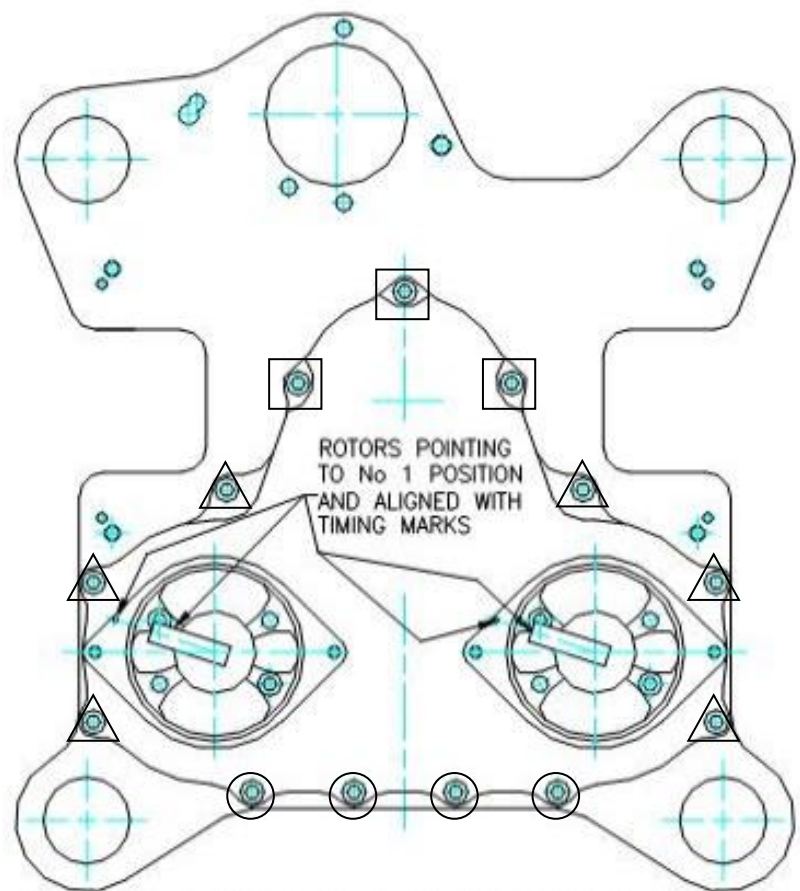

Figure 178 – Gearbox Installation
- Tighten the screws holding the gearbox to the engine. Note that different sized screws are used on the plate - Figure 178 refers.